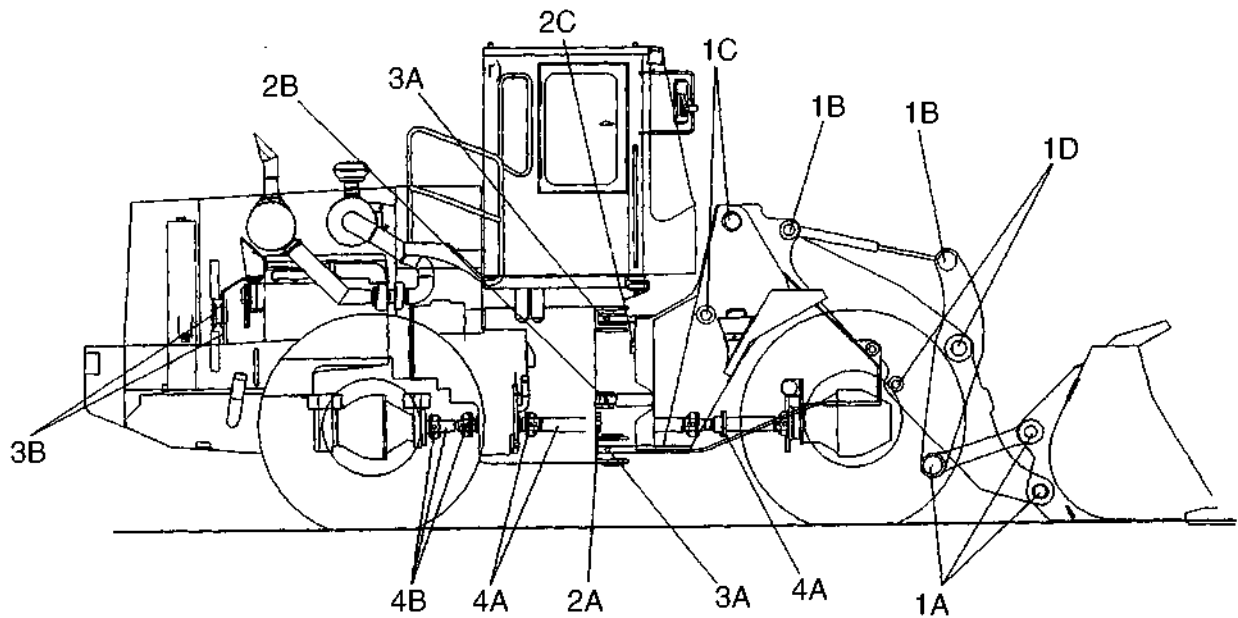

FIGURE 3-1
1. The following fittings are greased daily, or every 10 hours. If the bucket is being used in water, grease fittings 1A through 1D immediately after the machine is removed from the water. See Figure 3-1.
2. The following fittings are greased weekly, or every 50 hours. See Figure 3-1.
3. The following fittings are greased every 250 hours. See Figure 3-1.
4. The following fittings are greased every 500 hours. See Figure 3-1.